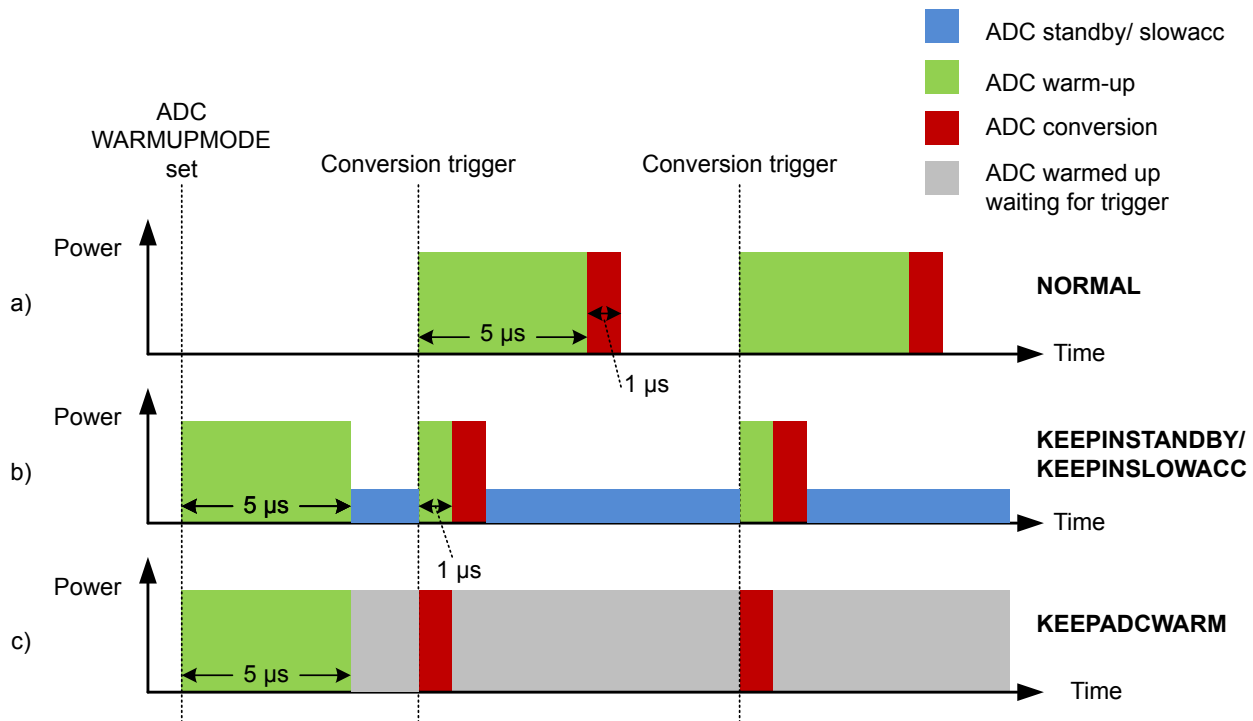

Figure 22.4. ADC Analog Power Consumption With Different WARMUPMODE Settings
Normally, the ADC will be warmed up only when samples are requested and is shut off when there are no more samples waiting. However, if lower latency is needed, configuring the WARMUPMODE field in ADCn_CTRL allows the ADC and/or reference to stay warm between samples, reducing the warm-up time or eliminating it altogether. Figure 22.4 ADC Analog Power Consumption With Different WARMUPMODE Settings on page 721 shows the effects on analog power consumption in scenarios using different WARMUPMODE settings.
- **NORMAL:** This is the lowest power option for general-purpose use and low sampling rates (below 35 ksps). The ADC and references are shut off when there are no samples waiting. The ADC does not consume any power when it is shut down. A 5 μ s warmup time will be initiated prior to every conversion. Figure a in Figure 22.4 ADC Analog Power Consumption With Different WARMUPMODE Settings on page 721 shows this mode.
- **KEEPINSTANDBY:** This mode is suitable for infrequent sampling of lower impedance inputs, and is the lowest power option for sampling rates between about 35 and 125 ksps. It may also be useful for lower sampling rates where latency is important. The reference selected for scan mode is kept warm, but the ADC is powered down. The ADC will initiate a 1 μ s warmup period before a conversion begins. Because the reference is kept warm, the ADC will consume a small amount of standby current when it is not converting. Figure b in Figure 22.4 ADC Analog Power Consumption With Different WARMUPMODE Settings on page 721 shows this mode.
- **KEEPADCWARM:** This mode provides the lowest latency and allows for maximum sampling rates. The ADC and reference circuitry remain powered on even when conversions are not in progress. Figure c in Figure 22.4 ADC Analog Power Consumption With Different WARMUPMODE Settings on page 721 shows this mode. This mode consumes the most power, but as soon as a trigger event occurs, the acquisition and conversion begin with no warm-up time. Note that if KEEPADCWARM mode is set and HFXO is selected as the ADC clock source, the HFXO will remain on in EM2.